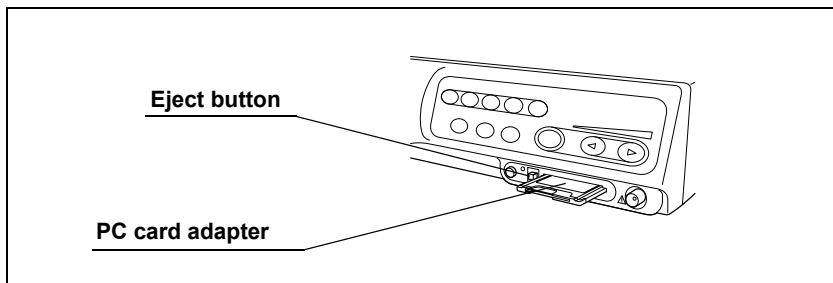

Figure 5.15
3. Press the eject button again. The PC card adapter comes out slightly (see Figure 5.15).